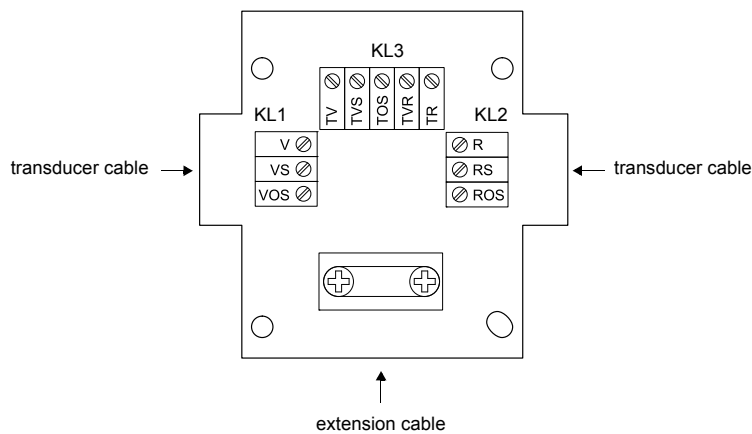

Fig. 6.15: Terminal board KFM1
- Connect the transducer cable to the terminals of the junction box (see Fig. 6.15, Tab. 6.10 and Tab. 6.11).